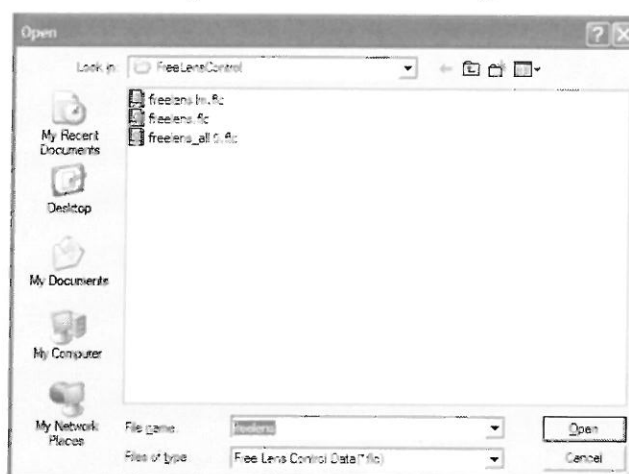

Fig. 5.74 FLC Data Loading
Then enter the file name and click the **Save** button. When loading the data, click "Load" (Fig. 4.59-③) and select the file to load from the file selection dialog (Fig. 5.74).